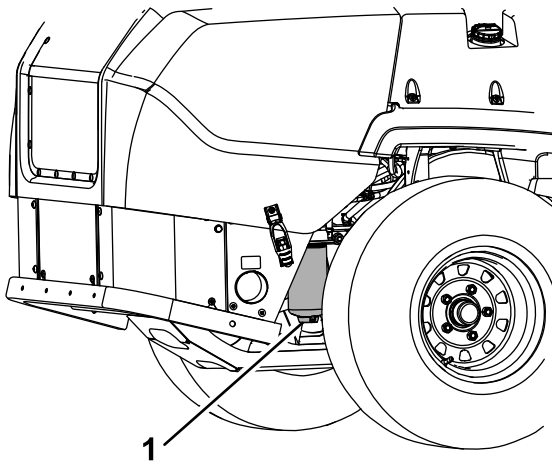

Figure 45
3. Place a drain pan under the fuel filter and loosen the drain plug approximately 1 turn (Figure 45).